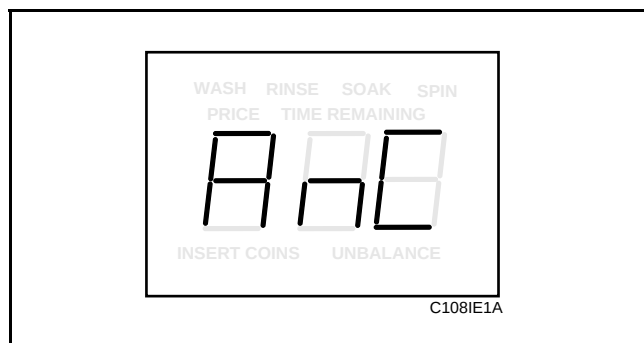

Figure 11
3. Press the DELICATES (+) pad or the COLD (–) pad to scroll through the programmable options until “AnC” appears in the VFD. See **Figure 11**.